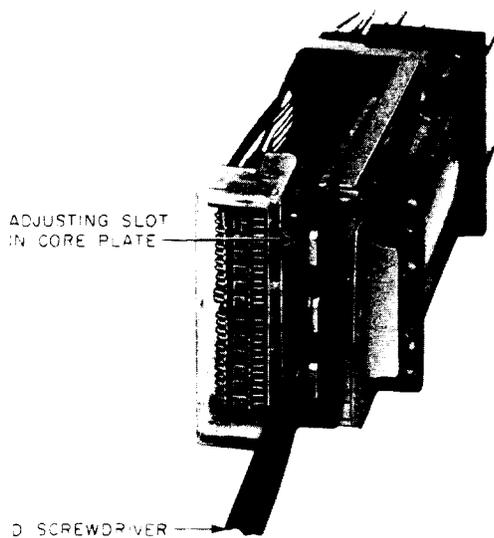
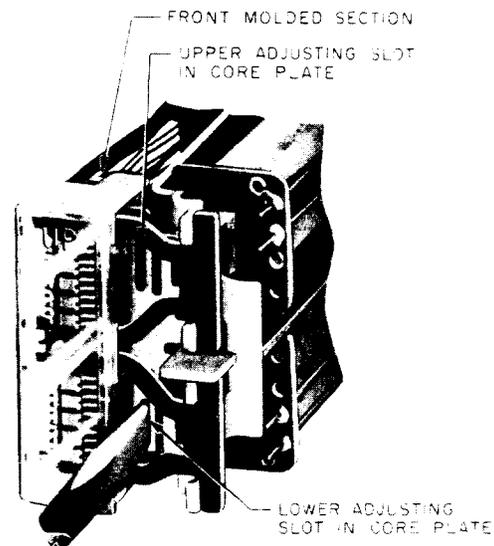

Fig. 17—Method of Adjusting Contact Separation AL-Type Relay
Fig. 18—Method of Adjusting Contact Separation—AM-Type Relay
(1) Adjustments to meet the contact make and break requirements are made by adjusting the upper and lower portions of the core plate to reposition the outer ends of the fixed contact springs which are supported in the front molded section. Since this molded section rests against the top and bottom of the core plate only, adjustment of either the upper or lower portion of the core plate will change the position of the fixed contacts in an inverse ratio to their distances from the top and bottom of the core plate, respectively. Thus, adjustment of the lower portion of the core plate will have the greatest effect on the position of the fixed contact in position 1 (lower half of relay) and negligible effect on the contact in position 12 (upper half of relay). This relation should be taken into account when making adjustments for contact make and break in either half of the relay and the adjustment should be made on either one or both portions of the core plate in order to obtain the required result with as little bending of either portion as practicable.
(2) **Contact Make:** To adjust for contact make, insert the D screwdriver as shown in Fig. 17 for AL-type relays or per Fig. 18 for AM-type into either the upper or lower adjusting slot in the core plate depending on whether the contacts to be adjusted are in the upper or lower half of the relay. To increase the separation between the movable break and fixed contacts, twist the screwdriver slightly clockwise in the lower slot and counterclockwise in the upper. If the contacts that require adjustment are located near the bottom of the upper half or the top of the lower half of the relay, the best adjustment is usually obtained by adjusting both the upper and lower portions of the core plate. After completing the adjustment, recheck the contact make and break and contact sequence requirements for both the upper and lower halves of the relay.
in Fig. 17 for AL-type relays or per Fig. 18 for AM-type into either the upper or lower adjusting slot in the core plate, depending on whether the contacts to be adjusted are in the upper or lower half of the relay. To increase the separation between the movable break and fixed contacts, twist the screwdriver slightly clockwise in the lower slot and counterclockwise in the upper. If the contacts that require adjustment are located near the bottom of the upper half or the top of the lower half of the relay, the best adjustment is usually obtained by adjusting both the upper and lower portions in the core plate. After completing the adjustment, recheck the contact make and break and contact sequence requirements for both the upper and lower halves of the relay.